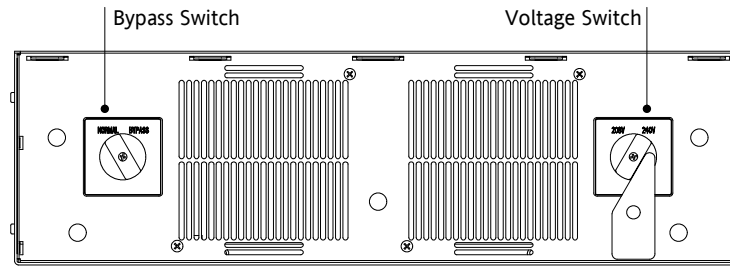

Figure 10. PDM (with Front Panel Removed)
4. Verify that the Bypass switch on the PDM is in the NORMAL position (see Figure 10).
5. **Changing the PDM output voltage.** When the PDM voltage switch is set to the 240V position (the default), the output voltage is 240V/120V. When set to the 208V position, the output voltage is 208V/120V. See Table 2 for a list of PDM input/output voltage settings. Figure 10 shows the voltage switch.